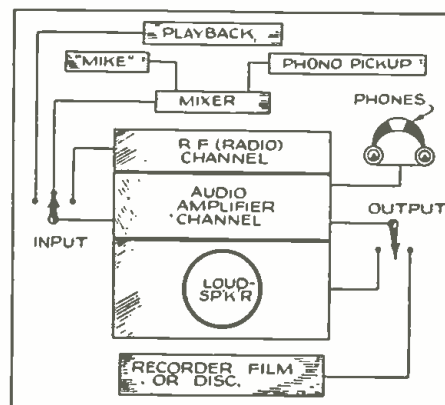

Fig. 1. Block diagram of a home-talkie "set-up" using the family radio receiver as the amplifying equipment.
Fig. 1. New circuit details of (A) G.E. models G-95, G-105, (B) Stromberg-Carlson model 345 and (C) Crosley models 418, 428 and 448. The heavy lines accentuate the features.